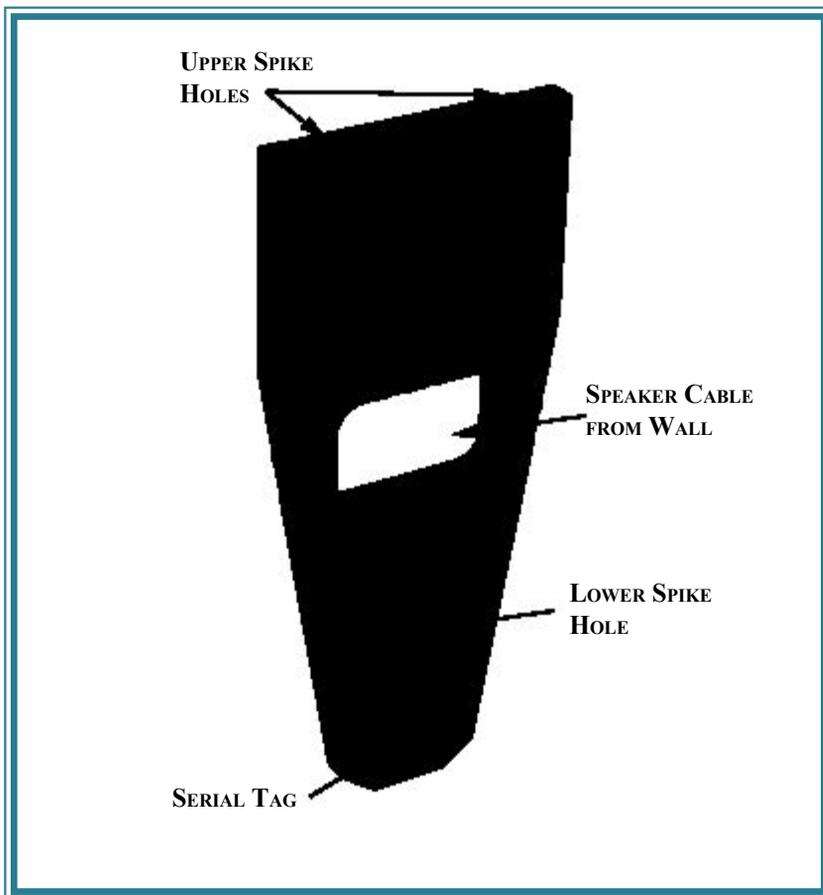

FIGURE 6.1- SURROUND MOUNTING BRACKET
3. Take a moment familiarize yourself with the mounting bracket. Note the locations for mounting hardware, spikes, instruction plate and speaker wire (see Figure 6.1) below. Notice that with some advanced planning you can conceal your speaker cable by feeding it through the mounting bracket.